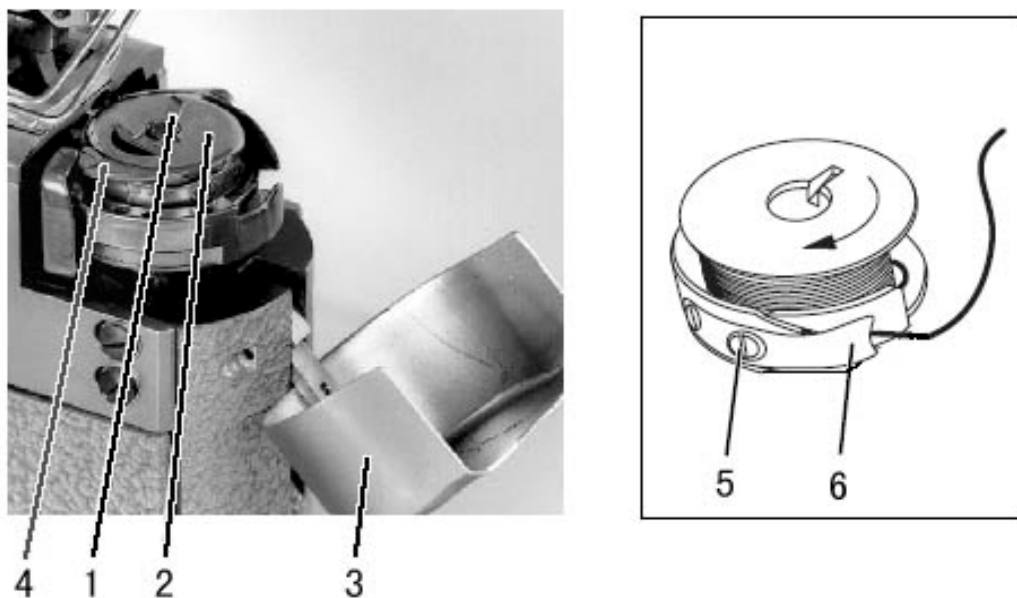

Fig.12
(1) Removing the empty looper-thread bobbin, be showed on Fig.12